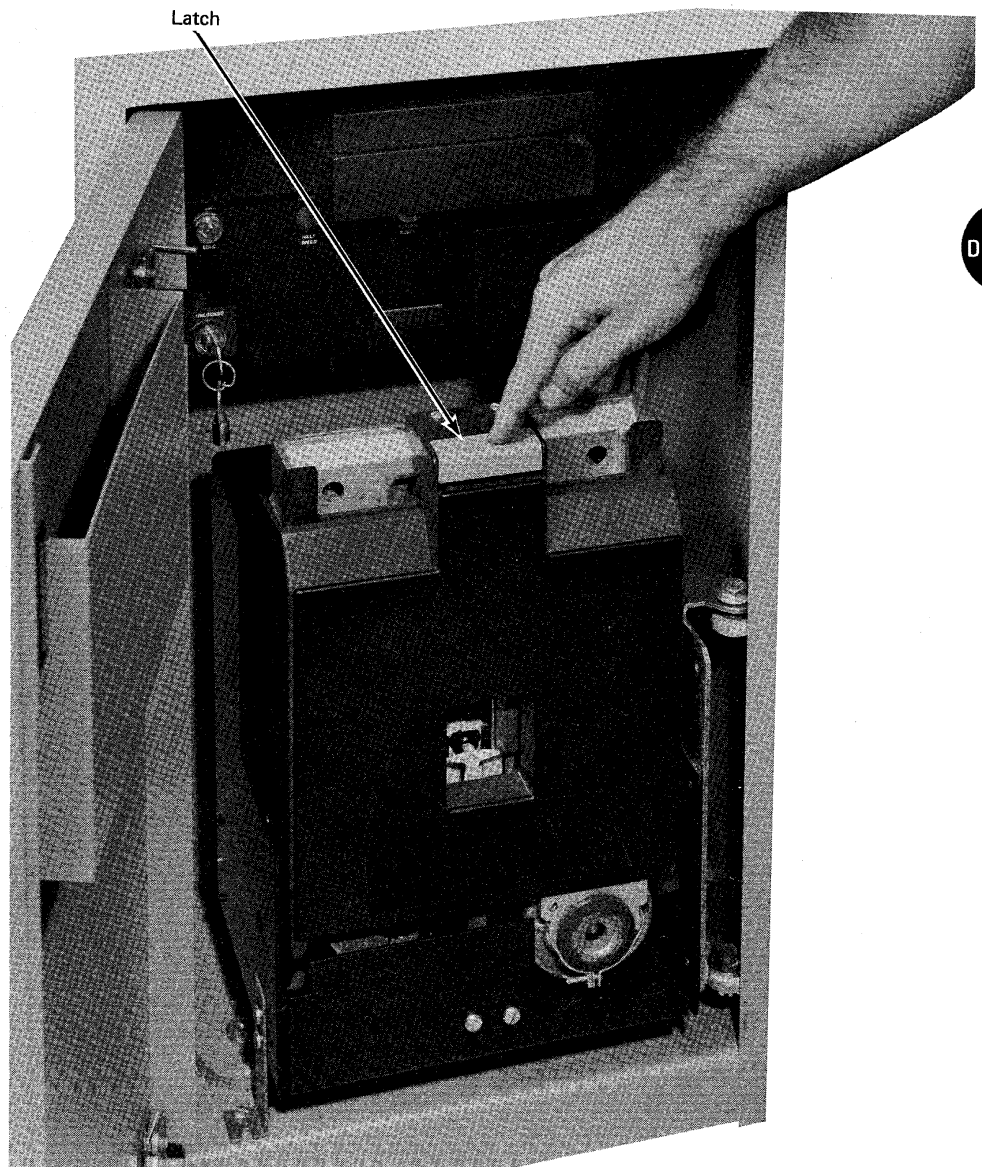

Figure 6-1. Opening the Diskette Device Door
- 2 Press down on the latch and pull back on the front of the door to open the Diskette Storage Device (Figure 6-1).